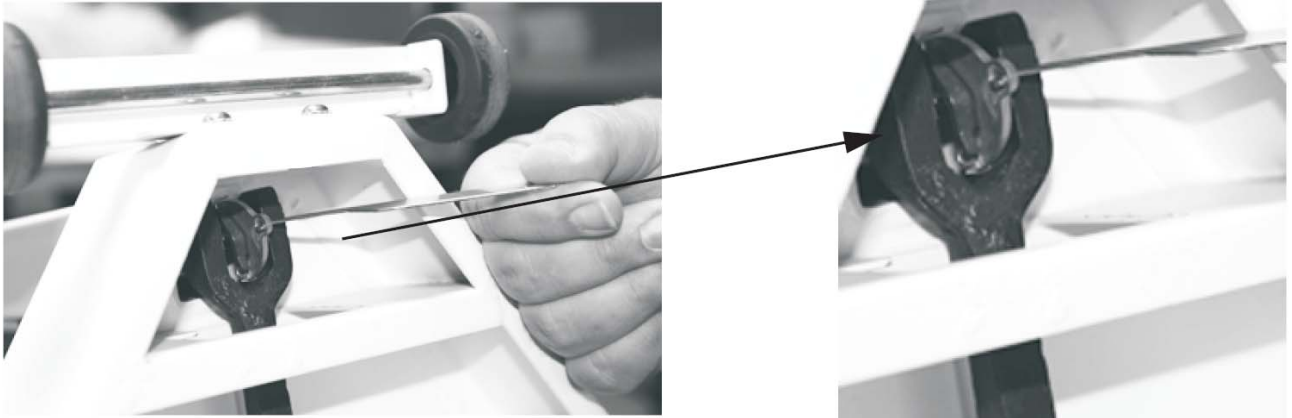

Figure 5. Connect the Steel Rod to the Scale Base
- Insert the wrench (included) into the small hole in front of the steel rod and pull the rod hook with the wrench to connect it to the scale base as shown in Figure 5. The steel rod is located inside the scale pillar. Once the pillar is attached to the scale base, the steel rod must be attached to the bottom of the scale.
Beam does not move at all during weighing	<ul style="list-style-type: none"> ▪ Weights are set higher than the person's actual weight. Reset the weights to a lower weight. ▪ Make sure steel rod is properly connected and aligned as in Figure 5.